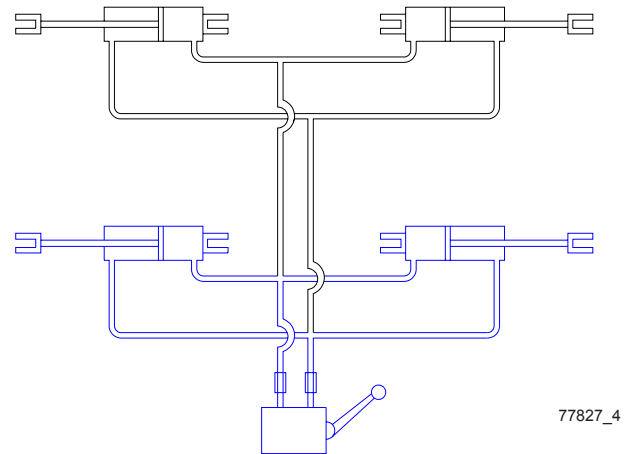

Fig. 5 Four Cylinder Wing Lift Circuit
Fig.5 Shows a simple four (4) cylinder circuit used to fold a pair of wings. This system is used on Wil-Rich QX2 field cultivators with a single pair of 9'4" or 11'8" folding wings.